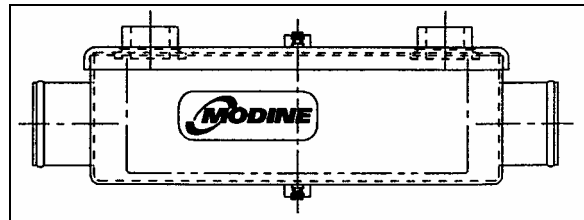

FIGURE 12: MODINE OIL COOLER 07072
2. Disconnect the two transmission hoses from oil cooler. Cover hose ends and fittings to prevent fluid contamination (fig.12).